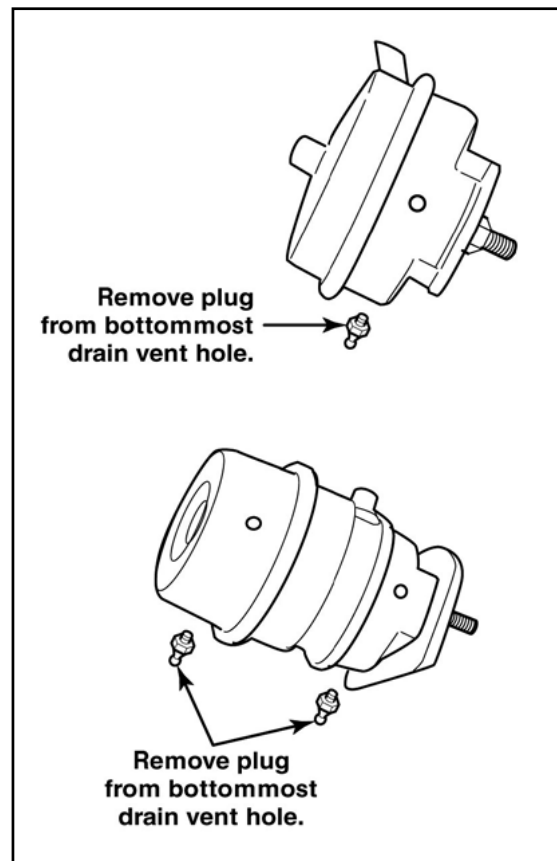

Figure 18
- tant that they not be obstructed for proper function. See **Figure 18**.
- f. The down facing vent hole in the brake chamber or service side of the parking brake chamber must be open and free of any debris. (See **Figure 18.**)